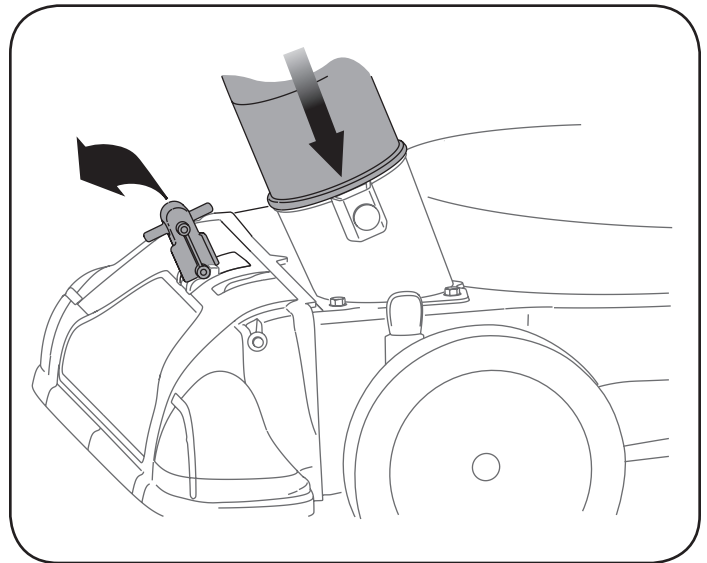

Figure 15
1. Place nozzle/hose vac handle in the bottom position on the nozzle to redirect vacuum to the hose assembly. See Figure 15.